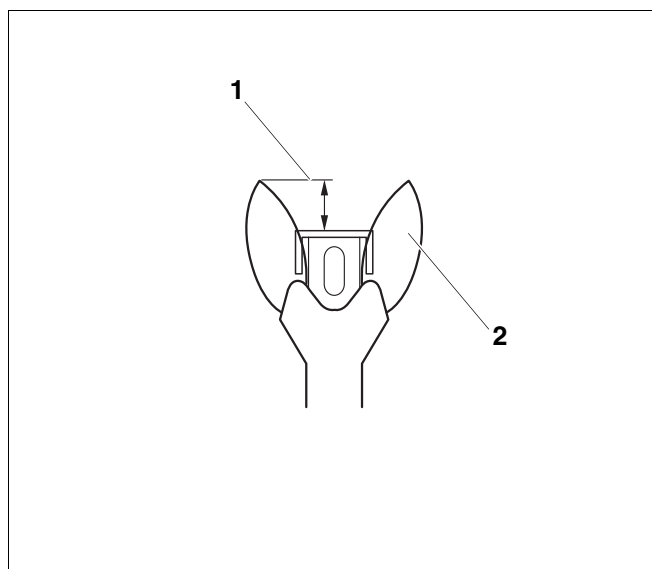
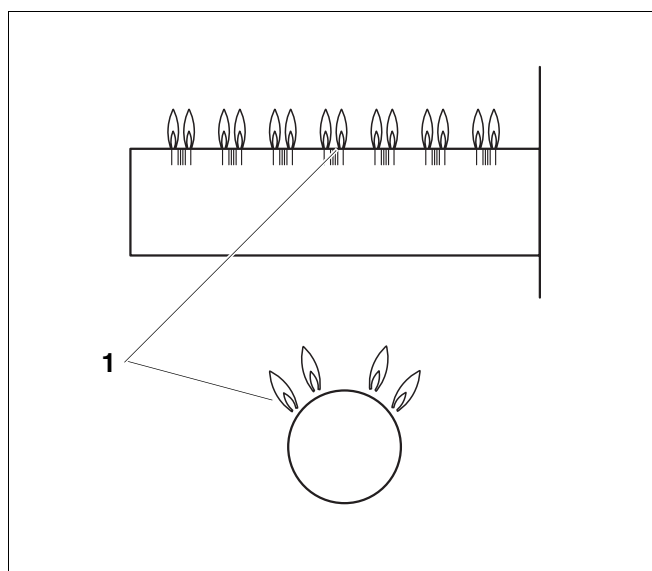

Fig. 29 Correct pilot flame setting
Fig. 30 Main burner
21. Test the safety switch by closing the gas shut-off valve. The main burner flame (→ Fig. 30) and the pilot flame (→ Fig. 29) are extinguished. After six (6) seconds at the most the main gas solenoid valve on the gas valve must close with an audible noise.